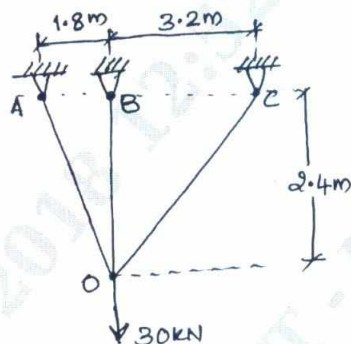

Fig.Q.8
- 8 Analyze the pin-jointed truss shown in Fig.Q.8 by matrix flexibility method of system approach and determine forces in all the members. Take force in member 'OA' as redundant. (16 Marks)